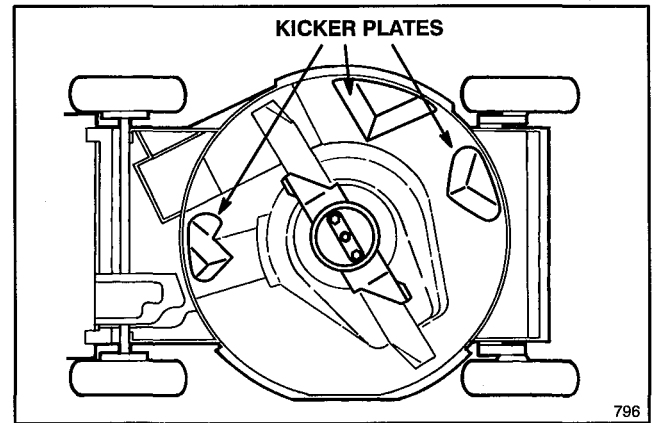

Figure 31
To ensure best performance, keep underside of mower housing clean. Be especially careful to keep kickers free of debris (Fig. 31).
3. Tip mower on its left side (Fig. 31).